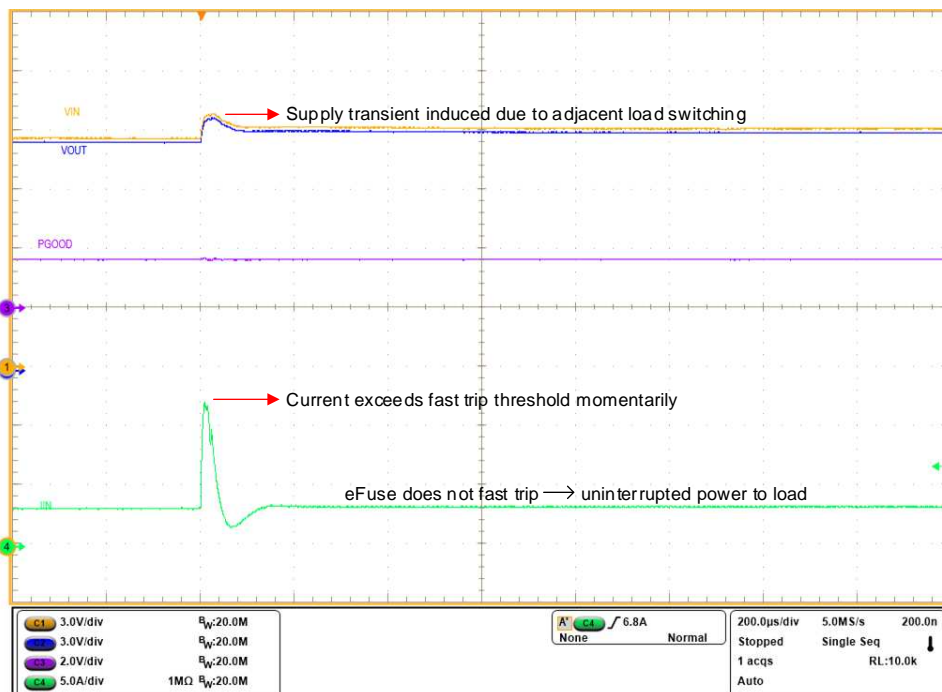

Figure 9. No Fast-trip in Case of Line Transient Due to Adjacent Load Interruption or Hot Un-plug
- In a system housing multiple cards plugged into a common supply backplane, if one of the cards carrying high current is suddenly hot-plugged out or undergoes a fast trip, the inductive energy built up in the backplane gets discharged through adjacent cards, resulting in a current spike. This current when superimposed on top of the existing steady state load current carried by the eFuse on the adjacent card can easily exceed the fast-trip threshold. The TPS25982 does not fast-trip in this condition as shown in Figure 9.